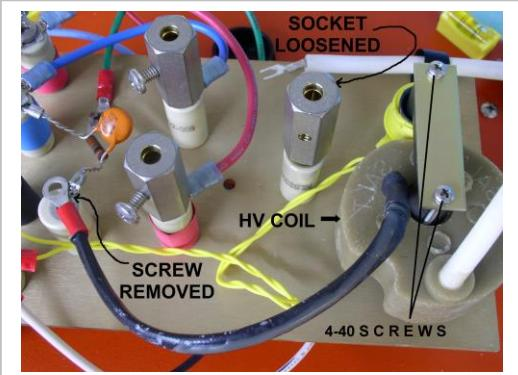

Figure 14a
- Loosen the hex socket identified in Figure 14a. It may be necessary to grip the ceramic post with pliers in order to loosen the socket.
- Remove the terminal screw that secures the black wire from the HV coil identified in Figure 14a.
- Remove the two 4-40 screws and the flat plate identified in Figure 14a.
- Reattach the white wire to the hex socket identified in Figure 14a, and lightly tighten the socket to the insulating post.
- Reattach the black wire from the HV secondary coil to the ceramic insulating post also identified in Figure 14a.